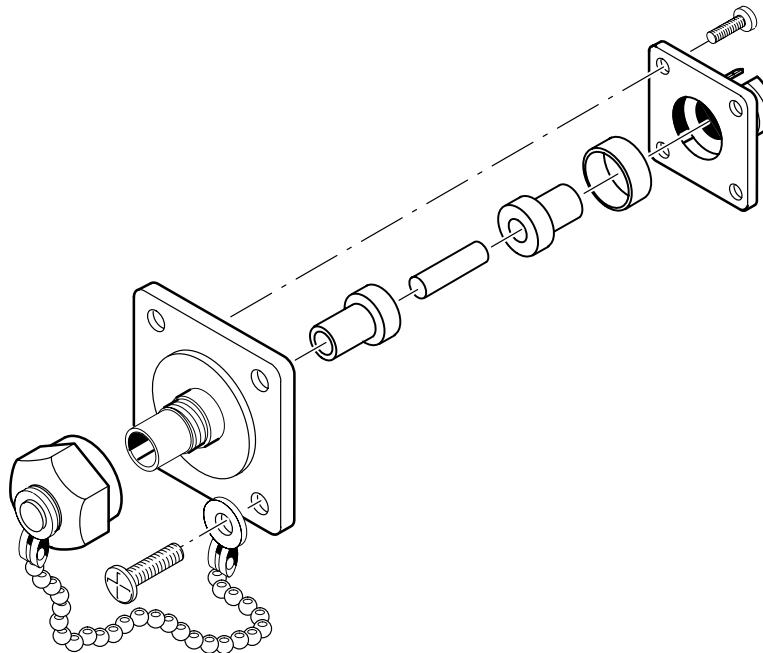

**Figure F-2: FC Optical Bulkhead Assembly**
4. Disassemble the bulkhead as shown in Figures F-2 through F-5.